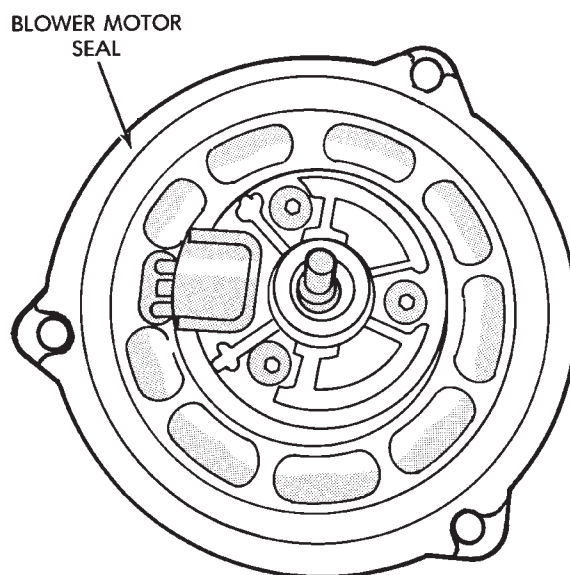

Fig. 6 Blower Motor Seal
- (1) Press the blower motor wheel onto the blower motor shaft. Be sure the flat on the blower motor shaft lines up with the flat inside the wheel.
- (2) Install the retainer clip. The ears of the retainer clip must be over the flat surface on the motor shaft.
- (3) Be sure the seal is installed on the blower motor housing (Fig. 6).